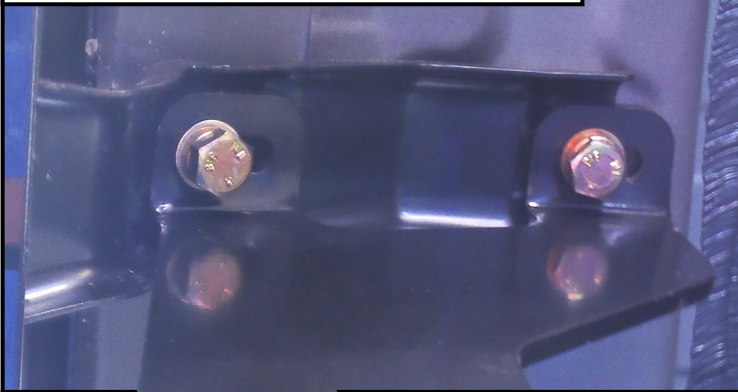

Figure 5 Driver side front mount bracket
- Take the driver side front mount bracket (Item 2) and place it over the factory rocker panel bracket. Attach using (2) M8 hex head cap screws (Item 6), (2) M8 lock washers (Item 8), and (2) M8 flat washers (Item 7). (Figures 5 & 6) Do not fully tighten at this time. **Note:** The mount bracket cradles should face the rear of the vehicle.